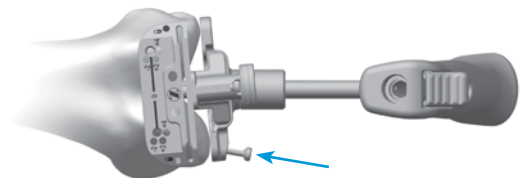

Fig. 111
- To secure orientation, impact the captured pin on the medial side of the Fixed Valgus Guide until the head of the captured pin is flush with the plate (Fig. 111).